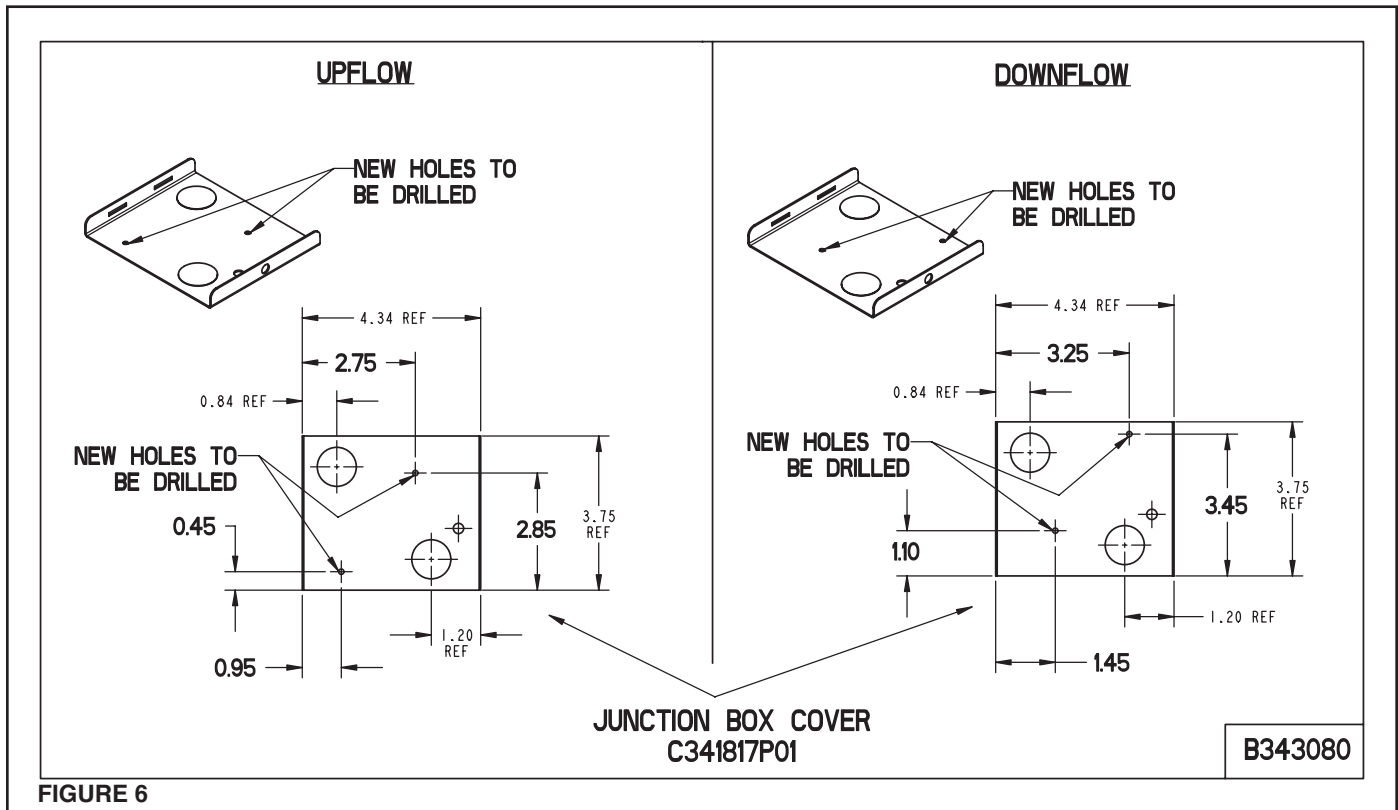

FIGURE 6
4. Using appropriate guide from Installer's Guide, drill 2 holes with provided drill bit. See Figure 6.